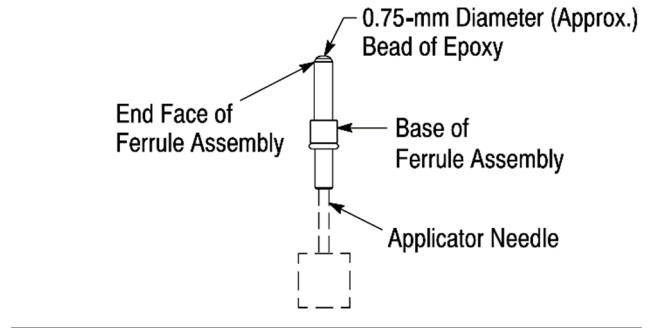

Figure 6
- a. Hold the ferrule assembly vertically and insert the needle tip into the base (end closest to the base) of the ferrule assembly. Refer to Figure 6.